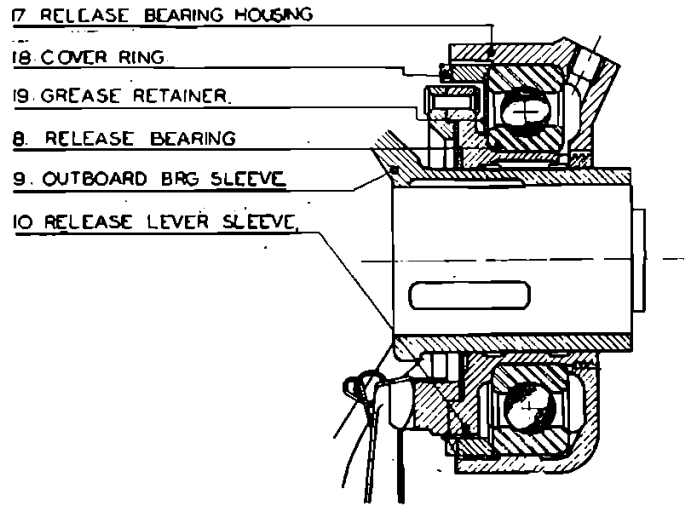

Fig. 62. Release Bearing in Section
The release bearing assembly is shown in detail in Fig. 62. It will be seen that the bearing (8) is secured by means of the cover ring (18) in a housing (17) and carried on the release lever sleeve (10). The assembly slides on the outboard bearing sleeve (9).